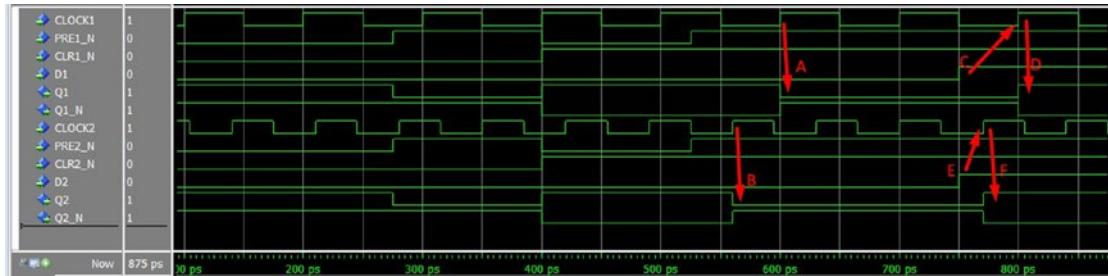

Figure 10-3. 7474 FPGA Timing diagram
In Figure 10-3, the two flip-flops in the `d_flipflop_7474_example` are driven by the same input except CLOCK1 and CLOCK2 are different. The red arrow (A) in the figure shows that Q1 and Q1_N change on the rising edge of CLOCK1. Q2 and Q2_N change on the rising edge of CLOCK2 (red arrow B). This dual flip-flop design shows that sequential statements ONLY execute when the IF condition is true (which is the clock input). The Q output also depends on the D input. Q1 and Q1_N follow the D1 input on the rising edge of CLOCK1 (red arrows C and D). Q2 and Q2_N follow the D2 input on the rising edge of CLOCK2 (red arrows E and F).